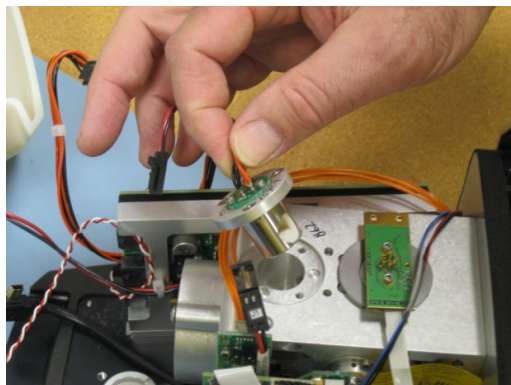

Figure 30. Removing the source assembly.
- 7 Remove the source assembly from the frame (see Figure 30). Set aside the source and replace it with the new source assembly.